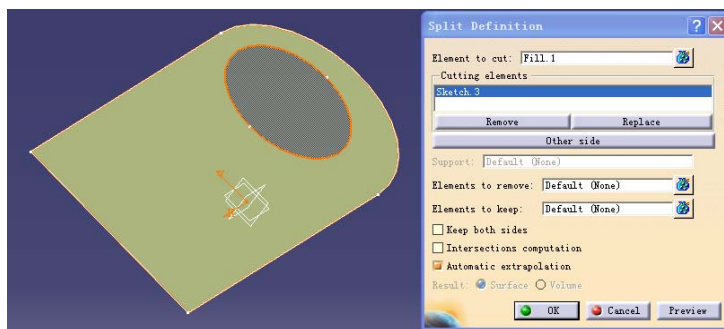

图 9-6
(2) Element to cut 栏中用鼠标选平面, Cutting Elements 栏中鼠标选圆, 点击 OK 键 (见图 9-6);